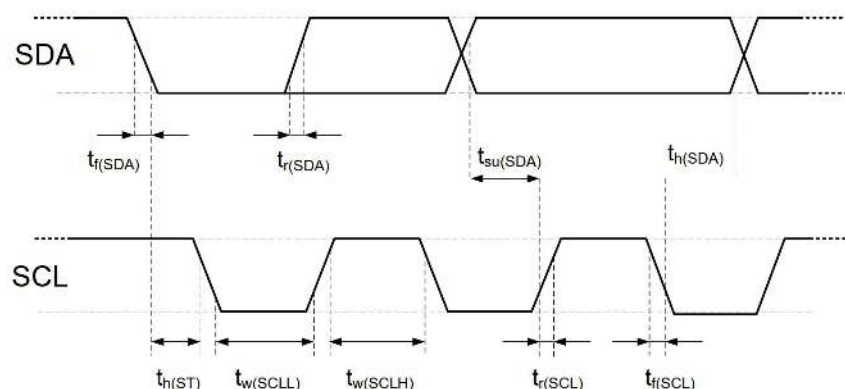

Figure 17. Timing diagram of digital input/output
SDA pins are used for data input and output of the sensor. The SDA is effective on the rising edge of the serial clock SCL when sending commands to the sensor, and the SDA must remain stable when the SCL is at high levels. After the SCL falling edge, the SDA value can be changed. To ensure communication security, the effective time of SDA should be extended to TSU and THO before the rising edge of SCL, and after the falling edge of SCL - refer to Figure 17. When reading data from the sensor, the SDA is effective after the SCL is low (TV) and remains until the falling edge of the next SCL.
The meaning is shown in Figure 17 Unless otherwise noted.